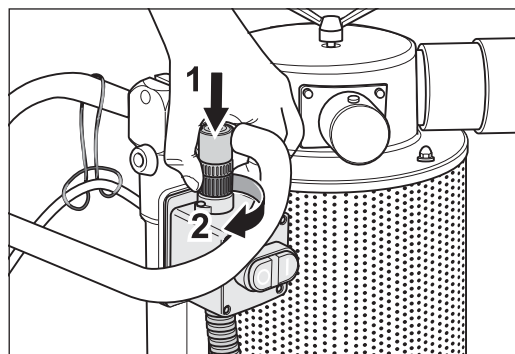

Fig. 16 Make sure that the cable plug of the sensor is inserted into the on/off switch!
**Before switching on the machine make sure that the cable plug of the sensor is inserted into the on/off switch (fig. 16 and → Section 6.2, Reassembly after transportation)! The machine will not start as long as this plug is disconnected!**